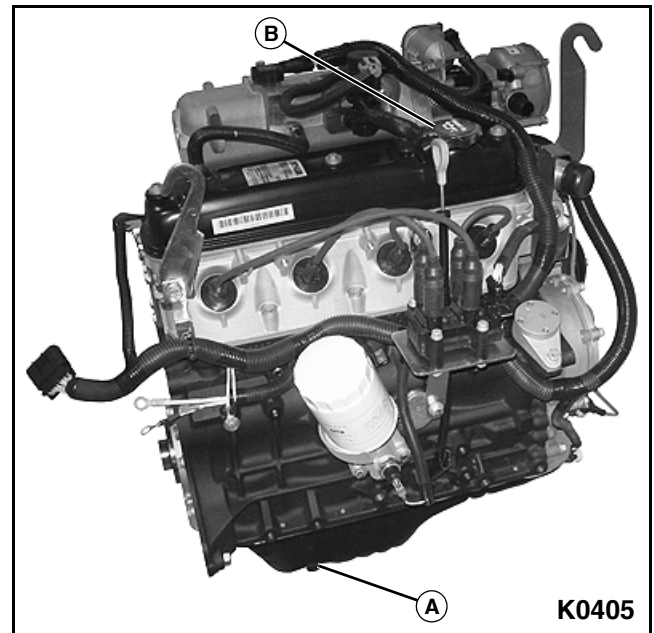

Figure 5-4
2. Place a drop cloth and collection container beneath the oil drain plug (A). **See Figure 5-4.**